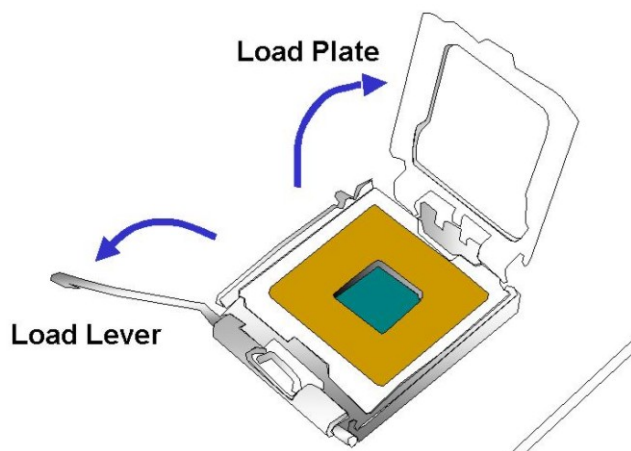

Figure 4-3: CPU Socket Load Plate
Step 2: **Open the socket.** Disengage the load lever by pressing the lever down and slightly outward to clear the retention tab. Fully open the lever, then open the load plate. See **Figure 4-3**.